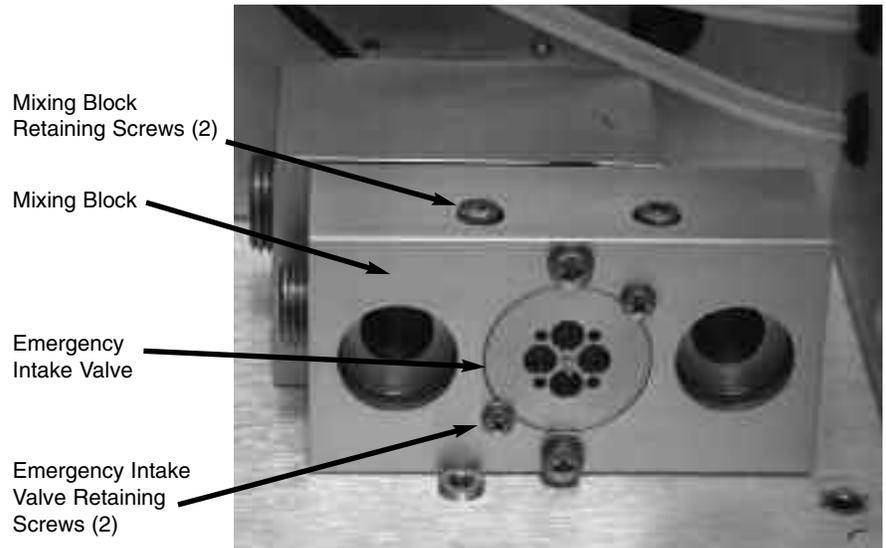

Figure 2-8 Emergency Intake Diaphragm Replacement
- 4** Remove two Emergency Intake Valve retaining screws, see Figure 2-8 above.
- 1** Remove the Mixing Block by removing the two retaining screws, see Figure 2-8.